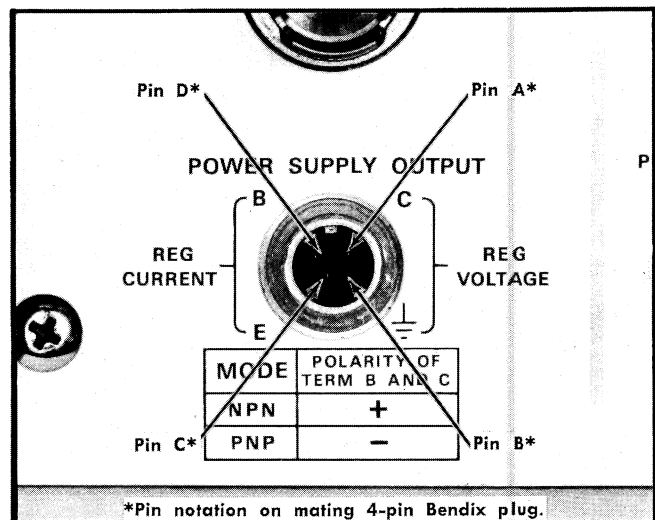

Fig. 2-1. Detailed view of the POWER SUPPLY OUTPUT connector.
**POWER SUPPLY OUTPUT** Output connector for voltage and current from Programmable Power Supply. See Fig. 2-1 for explanation of terminal nomenclature.
13. Connect a dc voltmeter from terminal C (see Fig. 2-1) of the POWER SUPPLY OUTPUT connector to chassis ground.